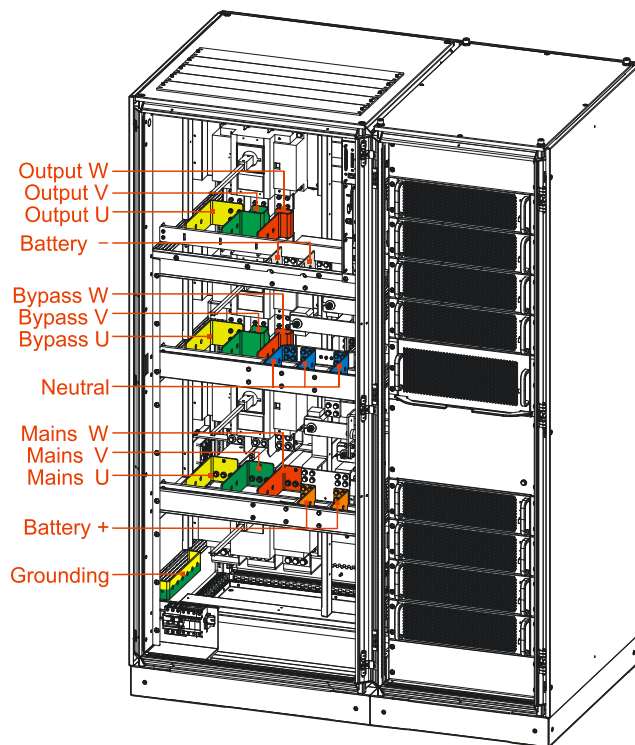

Figure3-27 Wiring position of IST6800
- Step 3 Follow the order to connect wires: grounding wire, mains input wire, bypass input wire, battery wire, neutral wire, output wire, and then fasten the bolts, as shown in Figure3-27.